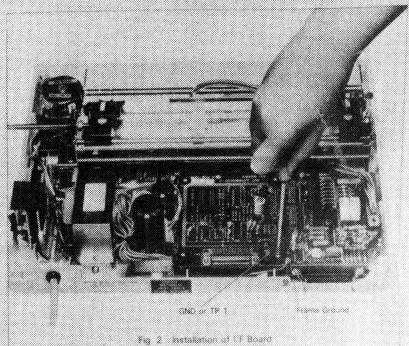

Fig. 2 Installation of I/F Board
STEP 3 Plug the I/F Board connector into the connector on the control circuit board of the Printer as shown in Fig. 2.
STEP 4 Put the 4 screws into the 4 poles and tighten them. (See Fig. 2)